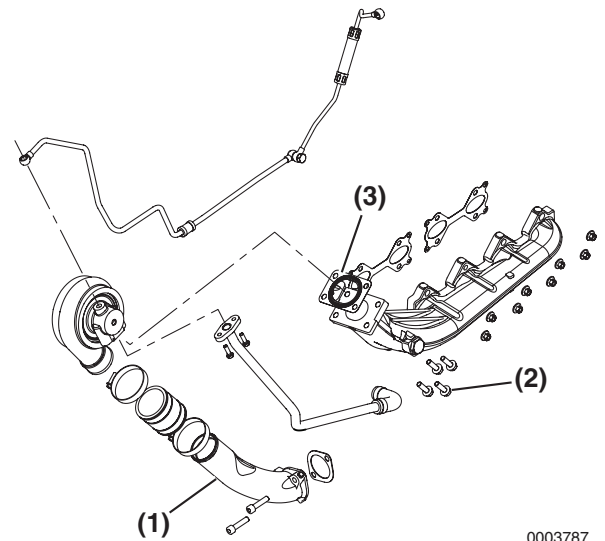

Figure 9-4
6. Disconnect charge air pipe (**Figure 9-4, (1)**) from turbocharger.
7. Remove four bolts (**Figure 9-4, (2)**) and remove turbocharger from exhaust manifold.
8. Remove gasket (**Figure 9-4, (3)**).